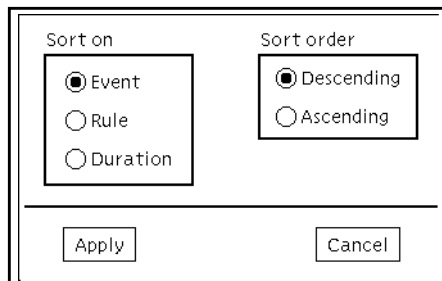

FIGURE 3-26 Sort Dialog Window from the View Menu
- **Sort**—Brings up a dialog window that allows you to select the item to sort on such as Event, Rule, Duration, and the Ascending or Descending sort order (see FIGURE 3-26).